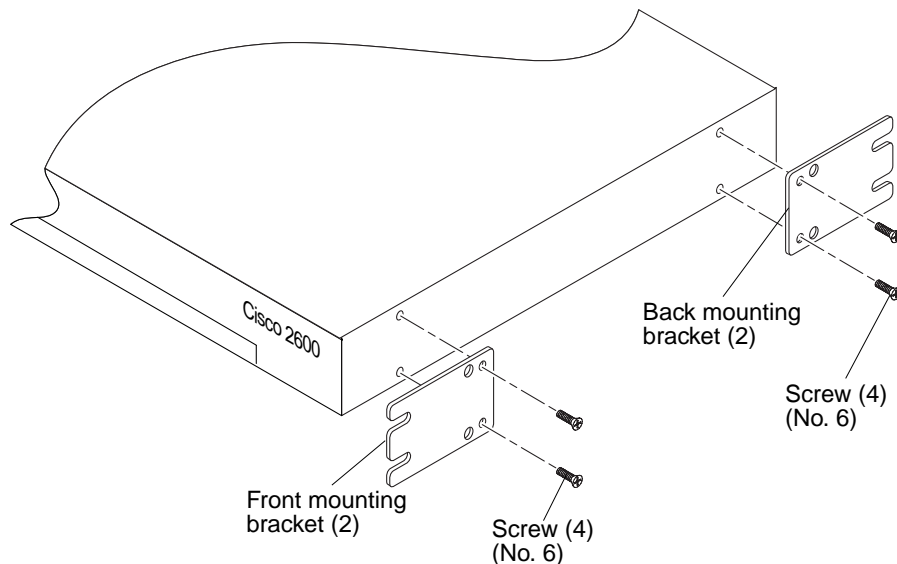

FIGURE 8 Removing and Replacing the Terminal Server Mounting Brackets
- 8. Using a No. 2 Phillips screwdriver, remove the two screws securing each front and back mounting bracket from the terminal server (FIGURE 8).**
2. Using a No. 2 Phillips screwdriver, replace the two screws securing each front and back mounting bracket to the terminal server (FIGURE 8).